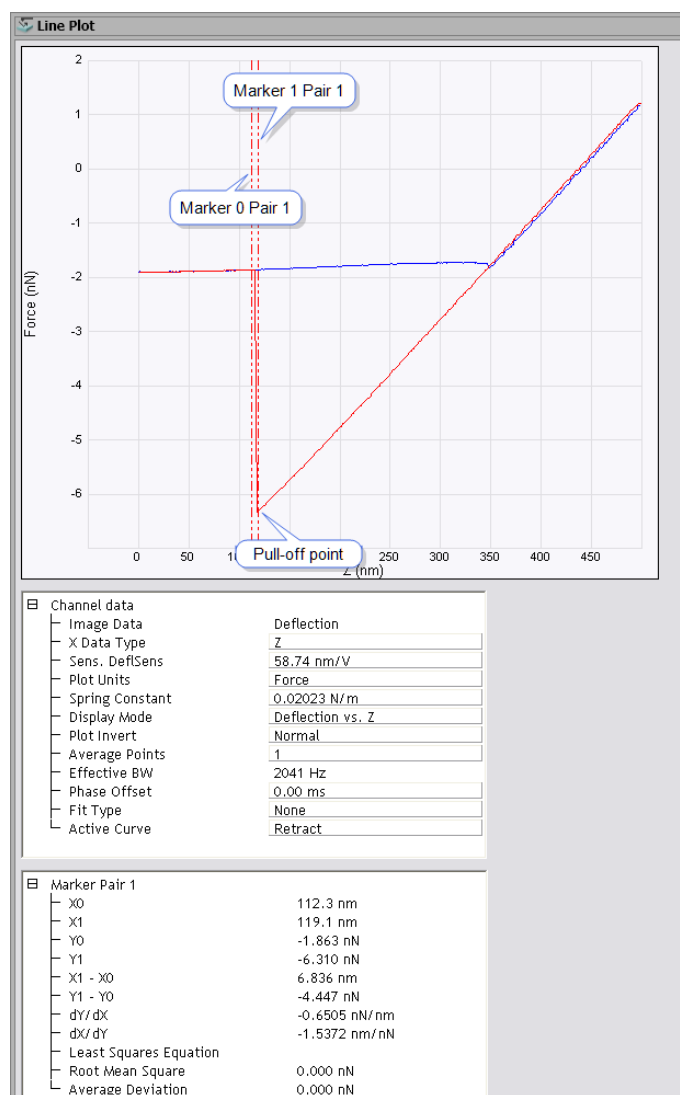

Figure 7.2d: Adhesion Measurement Example
- To measure adhesion, change the Active Curve parameter to Retract, and the Plot Units to Force. Move Marker 0 in Pair 1 just to the left of the pull-off point and Marker 1 in Pair 1 to the right of the pull-off point. See Figure 7.2d.